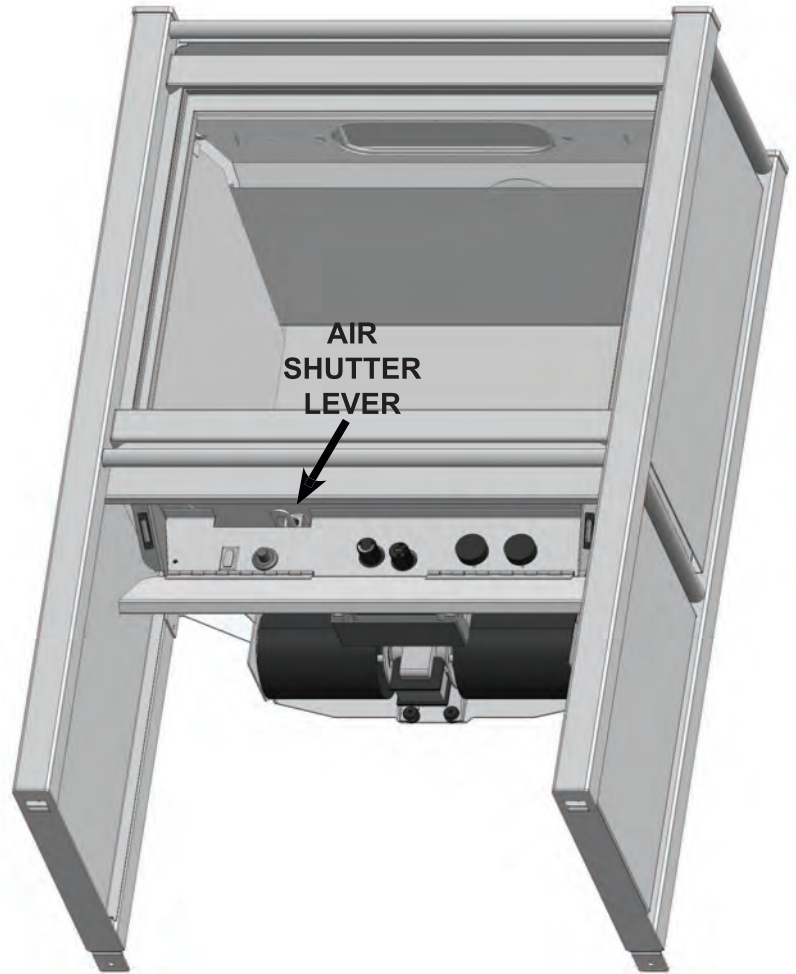

Fig.24
1. To access the air shutter adjustment lever, open the hinged door beneath the firebox, it is in the upper left-hand side. **(Fig.24)**